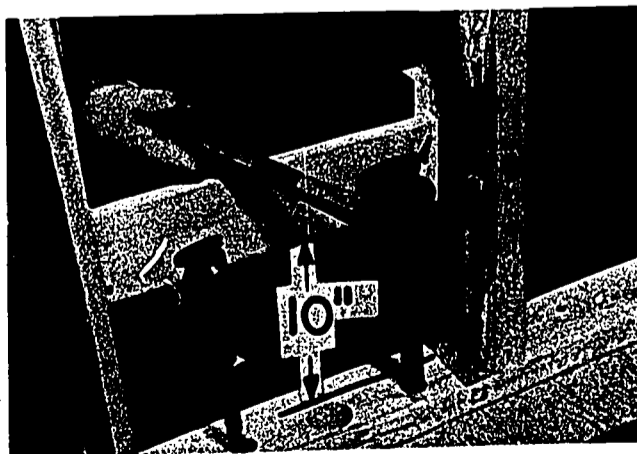

Fig. 51-11. Installing Backing Board for Hot and Cold Water Pipes (5" nipples are removed.)
4. Hold the backing board against the blocks, and toenail it to the studs as shown in Fig. 51-11.